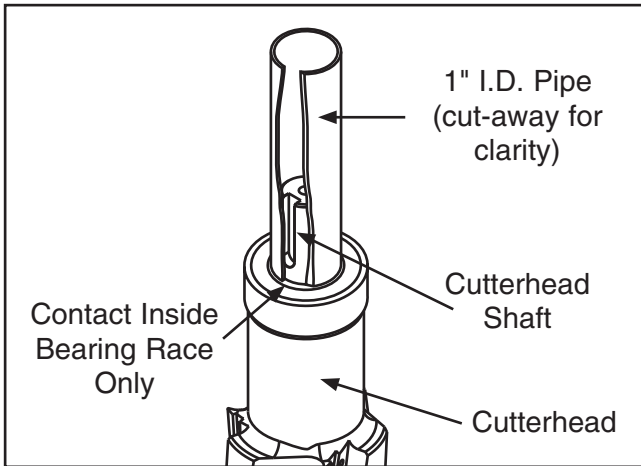

Figure 12. Close-up of bearing installation.
2. Install new bearing on cutterhead by very gently tapping it using a mallet and a 4" length of 1" inside diameter (I.D.) pipe, as shown in **Figure 12** on **Page 5**.
Important: The pipe should contact the inside race of the bearing only, as shown in **Figure 12**. Force on any other portion of the bearing **WILL** ruin the bearing!